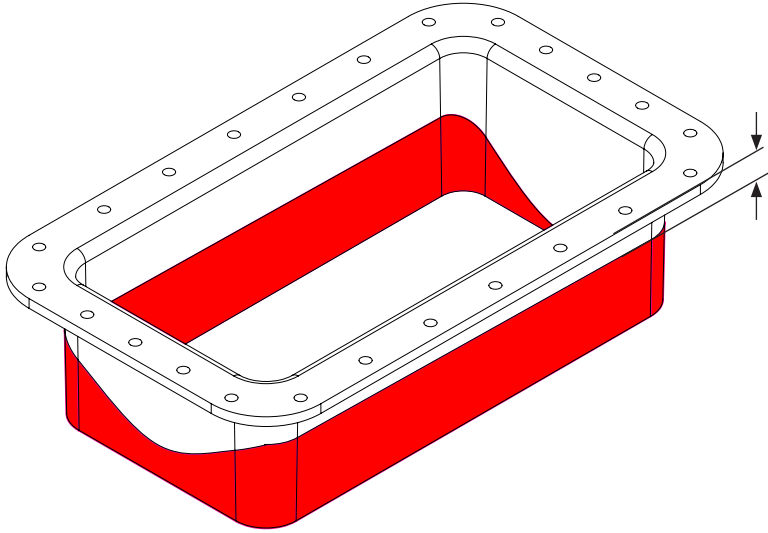

Fig 3.3.3
- ▶ Note minimum height, width & depth required for each lower flange. (See Fig 3.3.3)